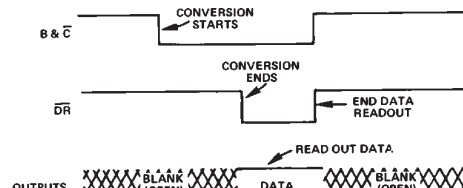
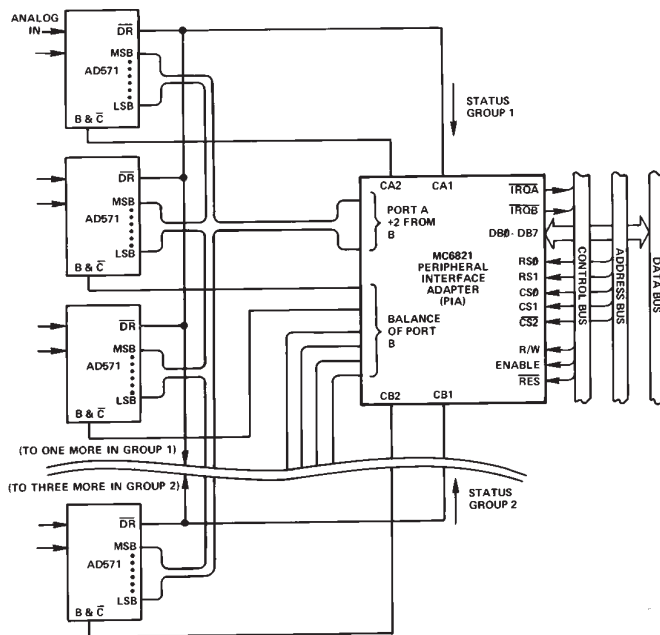

Figure 12. Multiplex Mode
Figure 15. Multiplexing 8 AD571s Using Single PIA for µP Interface. No Other Logic Required (6800 Control Structure)
**Multiplex Mode**—In this mode the outputs are blanked except when the device is selected for conversion and readout; this timing is shown in Figure 12. A typical AD571 multiplexing application is shown in Figure 15.
An improved technique for interfacing to a µP bus involves the use of special peripheral interfacing circuits (or I/O devices), such as the MC6821 Peripheral Interface Adapter (PIA). Shown in Figure 15 is a straightforward application of a PIA to multiplex up to 8 AD571 circuits. The AD571 has 3-state outputs,